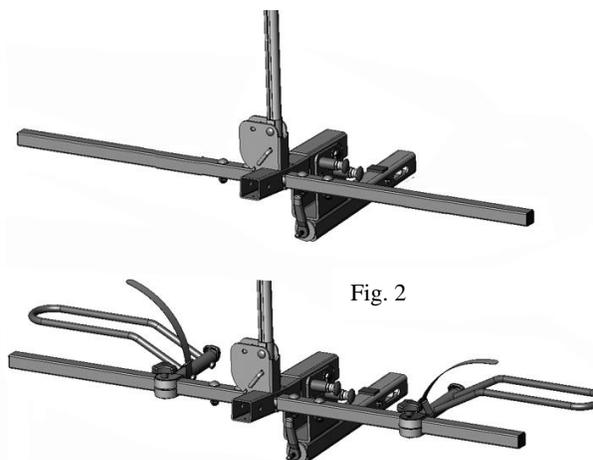
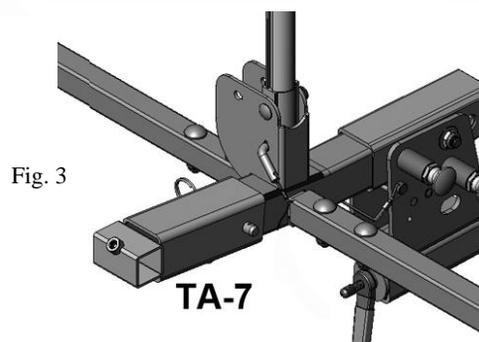

Fig. 2
Fig. 3
Step 1: Assemble the bike rack HR1450Y-E As shown in Fig. 2. If you intend on carrying a bike in addition to your electric trike, pre-determine of the inside wheel holders. The wheel holders will either be assembled before or after the assembly of the trike adapter depending on your bike's wheel base. The knobs on the bike's wheel holders may have to be inverted for extra clearance (Fig. 19).
Step 2: Remove the front reflector by unscrewing the small screw below the plastic cap. (Fig. 2) Locate part number TA-7, the front main bracket. Slide it onto the end of the bike rack, then insert the pin through the holes. Tighten the set screw located on the bottom of the bracket with the included 3/16 hex key. (Fig. 3)